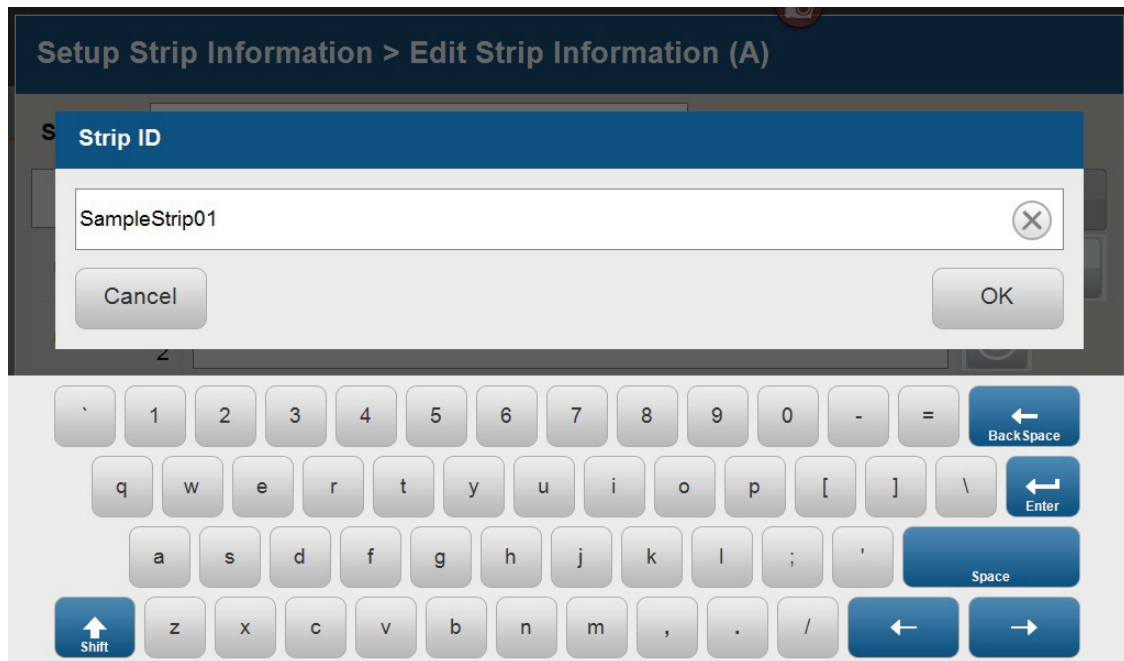

Figure 12. 'Set Strip ID' window.
3. The default Strip ID is date and time. It can be modified by selecting the Strip ID field. This opens the 'Set Strip ID' window and a keypad will become active on the touch screen (Figure 12). Alternatively, the Strip ID can be entered using a traditional keyboard if one is connected to the Spectrum Compact CE System. Enter the appropriate Strip ID, and then select **OK** to exit and return to the 'Edit Strip Information' screen.